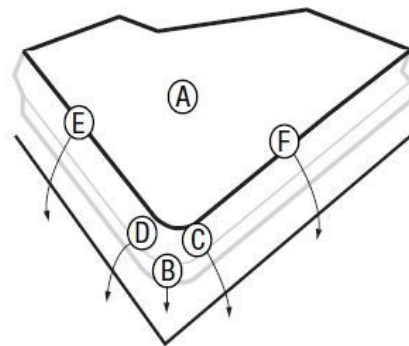

Figure 14. Apply the product on the corner.
4. Apply the Product to the flat surface before conforming the corners and then along the straight edges in this sequence: A, then B, C and D, then E and F, etc. See Figure 14.